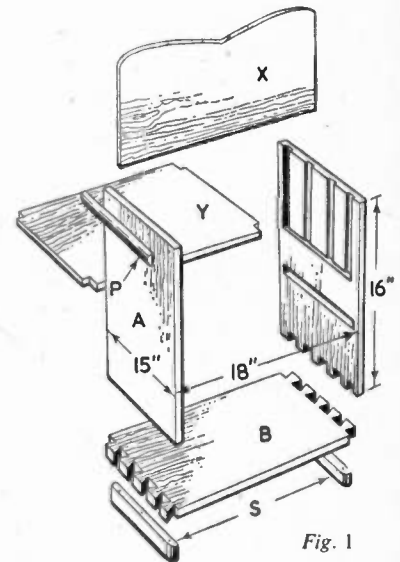

Fig. 1
plugged each end with circular pieces of wood about ¾in. or ½in. thick, having a ¾in. diameter hole in the centre, so that a ¾in. dowel can be passed tightly through. Have the dowels about 12ins. long and trim to size afterwards. The end pieces are glued and tacked in, Fig. 1 showing a poorly cut away view.
Your first task is to plane up the ends (A) and the base (B) shown in Fig. 1 and to leave each section of wood to a thickness of $\frac{3}{4}$ in.
Now mark the sockets in the ends (A) from the pins in the base (B) as is shown in Fig. 1. Then place each socket section end-up in the vice, and slant-cut with the tenon-saw. Be very careful to see that the saw-cut is in the waste wood and that the gauge-line and slightly more is left. Finally you can pare the sockets for perfect fitting.
Fig. 1 shows that each end (A) is trenched across to accommodate the shelf (Y). This trenching is stopped at $\frac{1}{4}$ in. from each edge. This shelf, and the vertical sections like (X) in Fig. 1 are cut from $\frac{1}{4}$ in. thick plywood. The vertical sections are fitted into grooves made in each of the ends (A). If you should wish to make your Stand somewhat narrower, you could reduce the number of these sections to three or four, as your fancy pleases.
Now, each of the end-scrolls, marked (P) in Fig. 1 are glued, panel-pinned, and rounded over. The base-feet as shown at (S) are rounded at the ends, and screwed up from underneath.
diameter dowel for a handle, the end of the handle being in line (X, Fig. 1) with the end of the base.